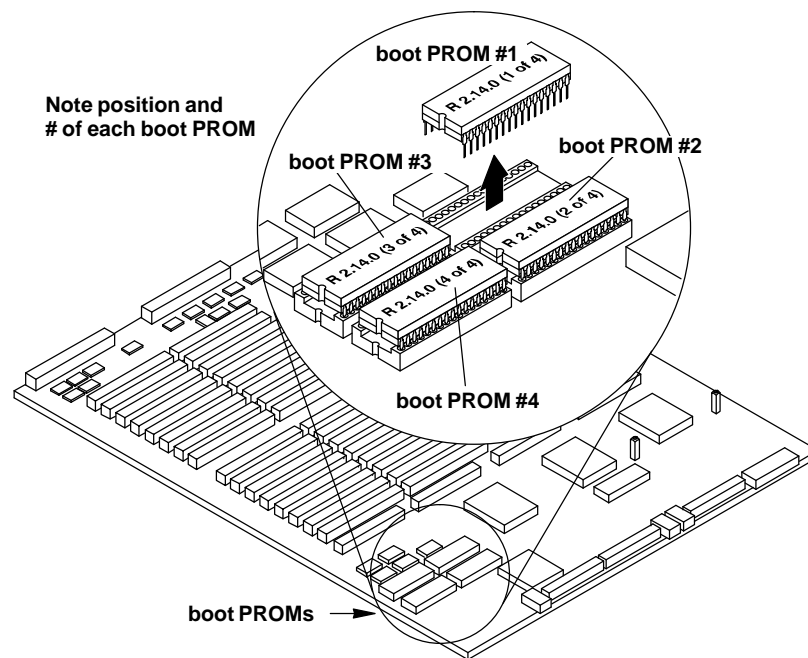

Figure 5-3. Removing the boot PROMs
1. Locate the boot PROMs, carefully noting the position of each and its respective number, i.e., 1, 2, 3, or 4 (of 4). Refer to Figure 5-3 for the correct number and position of each boot PROM.